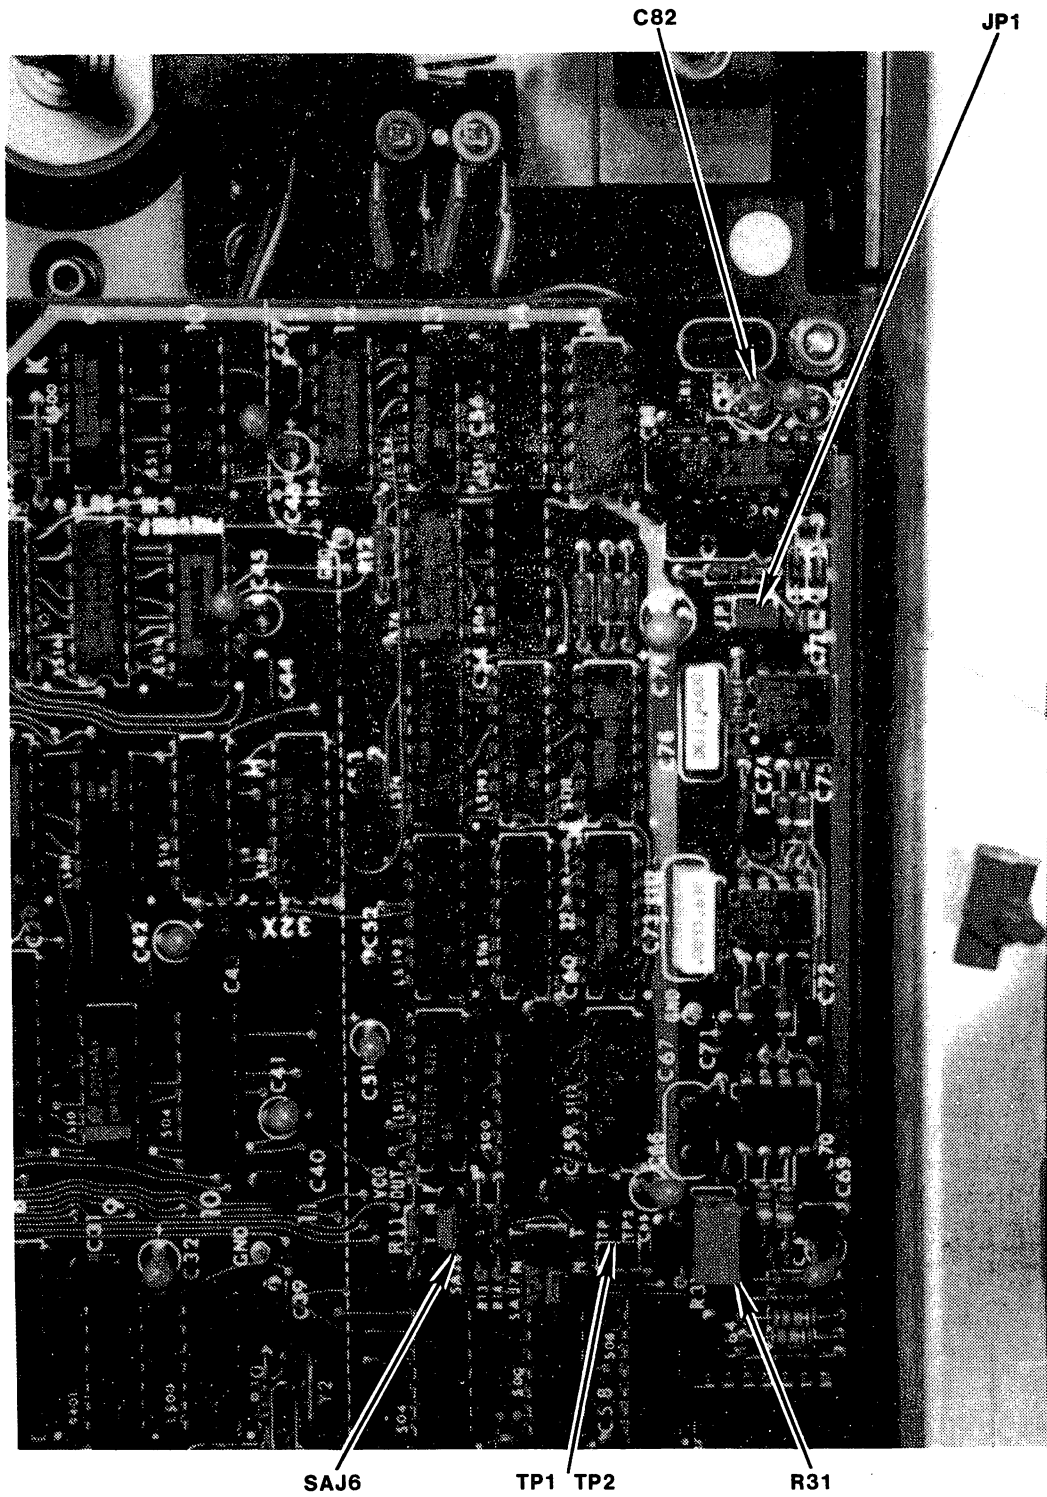

Figure 5-11 Portion of Formatter Board
- a. Remove jumpers at SAJ6 and JP1 (see Figure 5-11) on the Formatter board.
- d. Connect the frequency counter to the left most pin of SAJ6 and adjust trimmer capacitor C82 (see Figure 5-11) until the VCO center frequency measures 3.84 MHz +/-10 KHz.
- b. Connect oscilloscope probes to TP1 and TP2 (see Figure 5-11) on the Formatter board.
- c. Adjust potentiometer R31 (see Figure 5-11) on the Formatter board until the leading edges of the two displayed waveforms coincide.